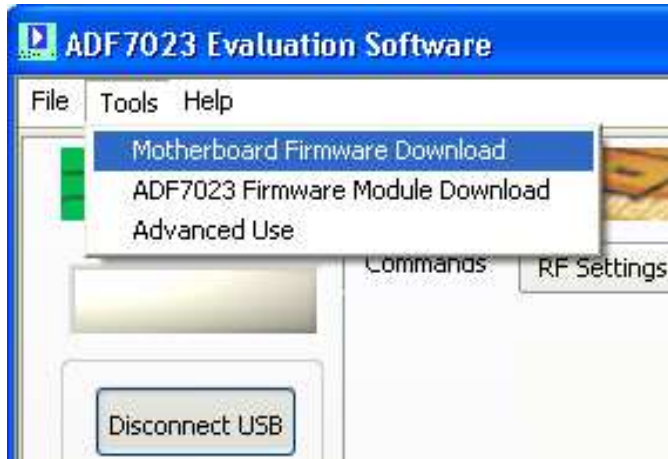

Figure 22
2. To update the firmware select “**Tools**” -> “**Motherboard Firmware Download**” (Figure 22).